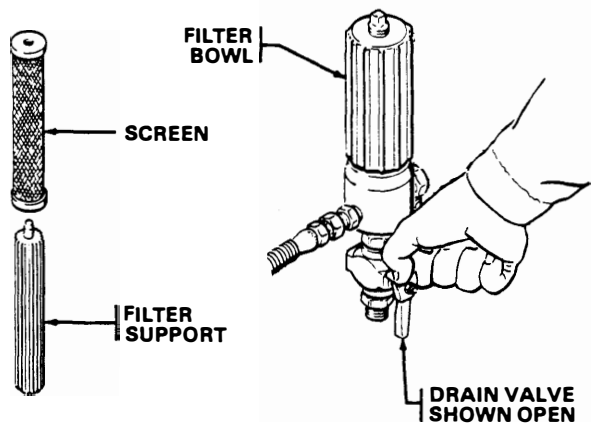

Fig 2
1. Engage the gun safety latch, turn the ON/OFF switch to OFF, release the gun safety, trigger the gun to relieve pressure, engage the gun safety and open the filter drain valve. See Fig 2.